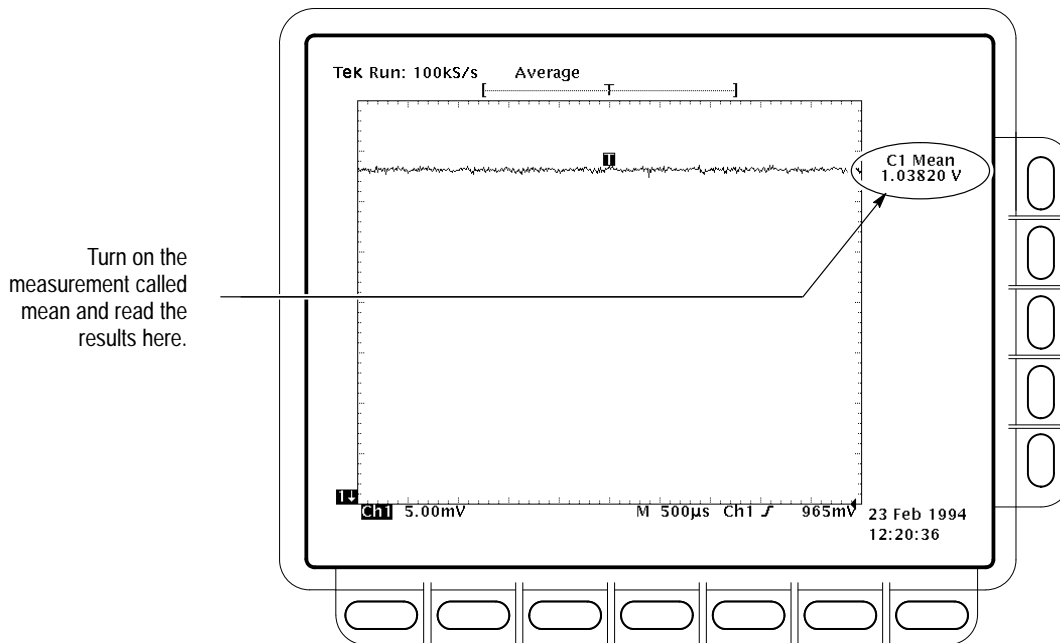

Figure 1–6: Measurement of DC Accuracy at Maximum Offset and Position
- e. *Measure the test signal:* Press **CLEAR MENU**. Read the measurement results at the **Mean** measurement readout. See Figure 1–6.